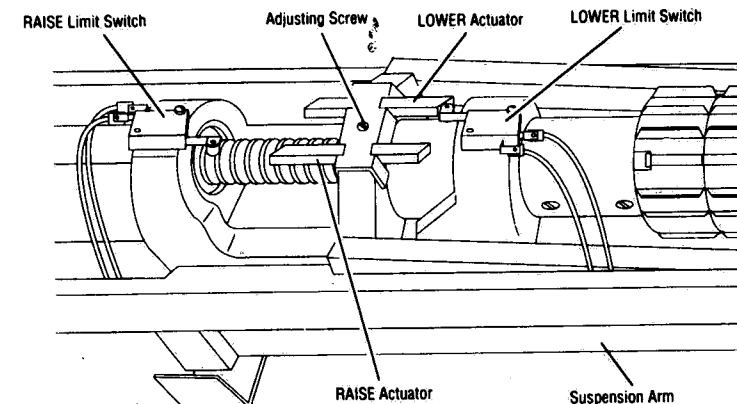

Figure 6-7. Adjust Limit Switches
**NOTE:** LOWER limit switch is located on motor end of motor block and RAISE limit switch is located on opposite end of motor block (see Figure 6-7).
5. Loosen adjusting screw, located on top of worm gear block (see Figure 6-7). Slide actuator towards LOWER limit switch until actuator activates limit switch.